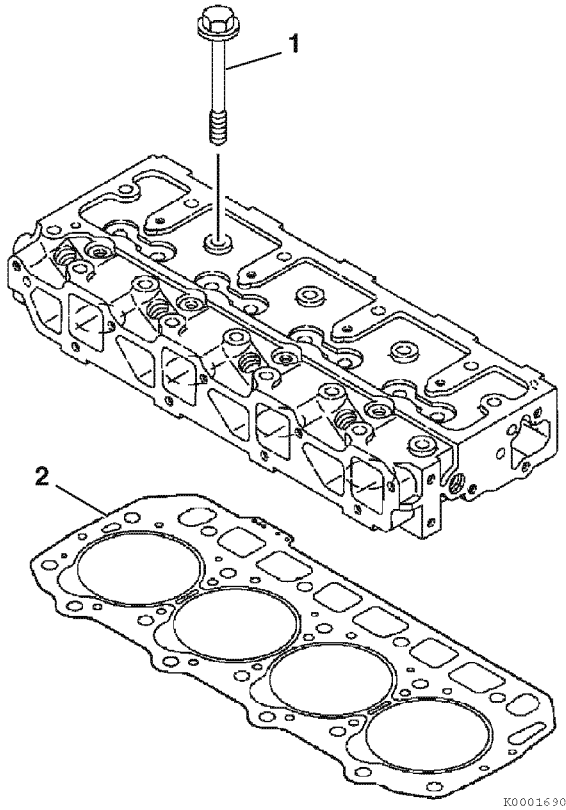

Figure 6-9
2. Remove the cylinder head bolts (Figure 6-9, (1)).
3. Lift the cylinder head away from the cylinder block. Discard the cylinder head gasket (Figure 6-9, (2)). Position the cylinder head on the work bench to prevent damage to the combustion surface.